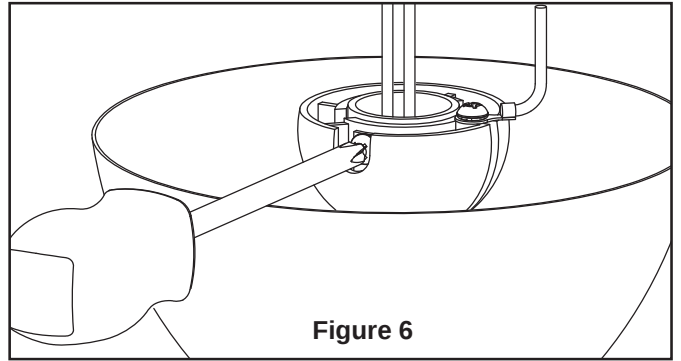

Figure 6
- ☐ **6.** Reinstall the hanger ball on the downrod as follows. Route the black/white, blue, red, gray and yellow wires and safety cable through the hanger ball. Position the pin through the two holes in the downrod and align the hanger ball so the pin is captured in the groove in the top of the hanger ball. Pull the hanger ball up tight against the pin. Securely tighten the set screw in the hanger ball. **A loose set screw could cause fan wobble.** (Figure 6)
- ☐ 5. If your receiver slid out of the bracket at all while wiring your fan, slide it all the way into the hanger bracket, taking care not to pinch the wires. The canopy comes up to cover the receiver and hanger bracket. (Figure 6)